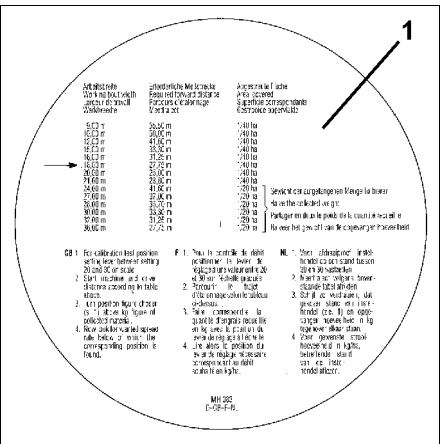

Fig. 31
- 4. The table for determining the required test distance [m]. (Fig. 31).
- For the desired working width **18 m** read off table (Fig. 31/1) the required test distance **27,75 m**.